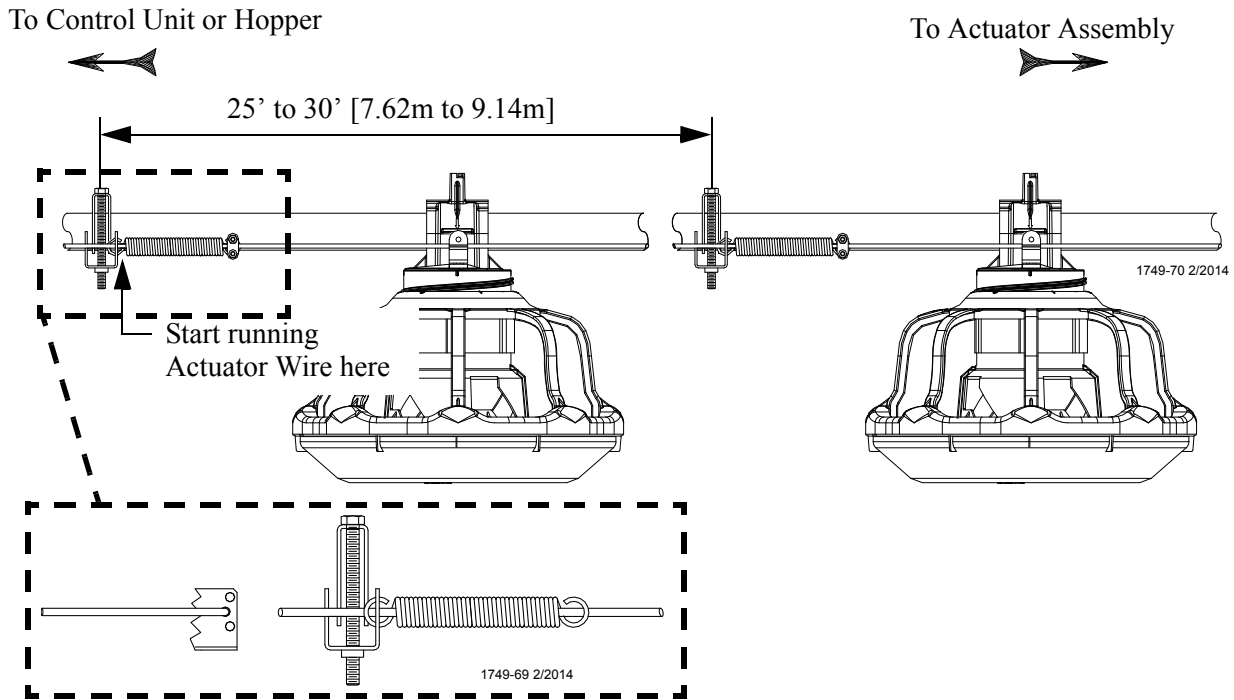

Figure 61. Installing actuator wire
1. Beginning at the terminal spring bracket or if a pusher pan is used start at that spring bracket. Slide the end of the actuator wire through the two holes in the bracket and through the center of the end spring, see **Figure 61**.